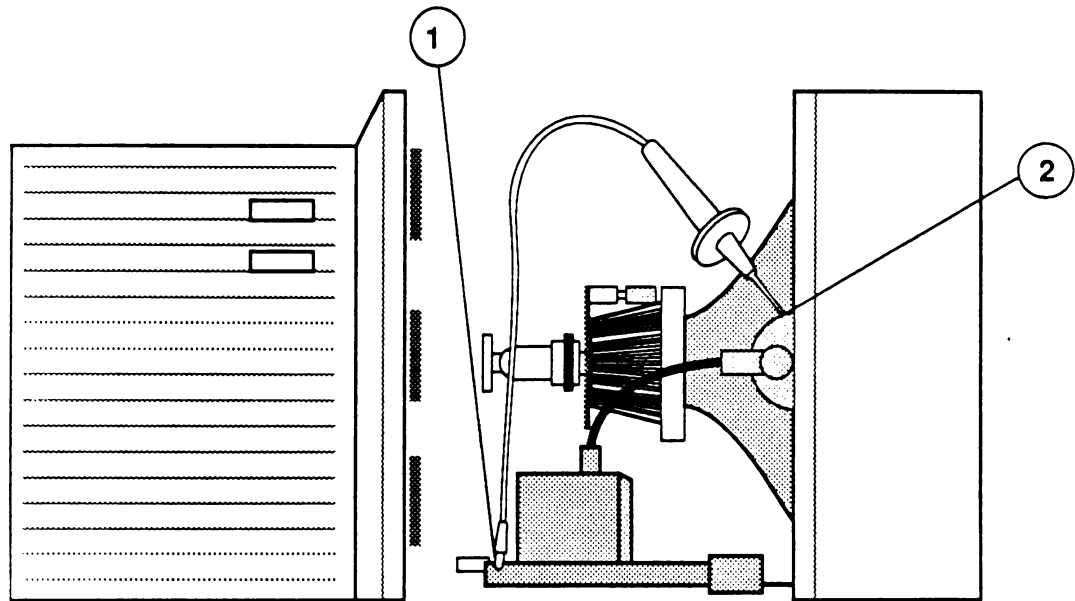

FIGURE 3
- 5.7 Bezel Assembly (Figure 3)
4. Attach the clip of the CRT discharge tool to any metal part of the chassis (Figure 3, #1).
6. Hold the CRT discharge tool to the tube surface, and insert its probe under the anode cap (Figure 3, #2) until it touches the anode ring.